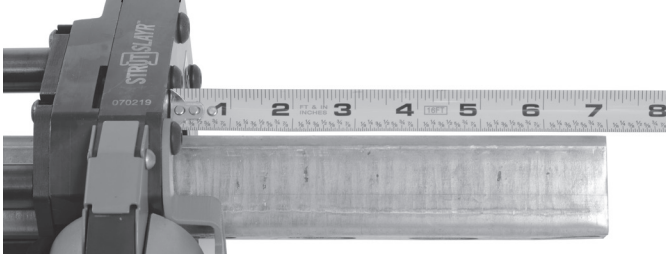

Figure 6B– Measuring Strut Length
- b. Add 1" (25 mm) to sideplate – strut end measurement (Figure 6B).